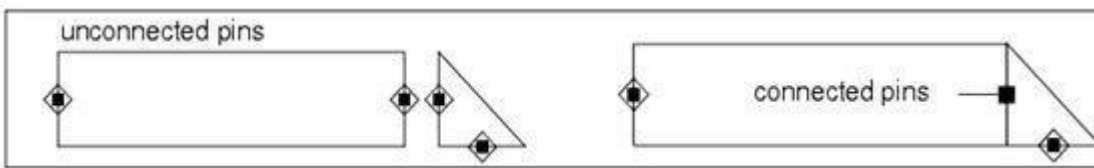

Figure 2: how to connect to two components
- When a component is placed in the Layout window, note that each pin of component is outlined and glow in layout. When two pins of 2 different component are connected, the outline disappears. As described in following figure 2, review the highlight color of pins as well as the color of connections.